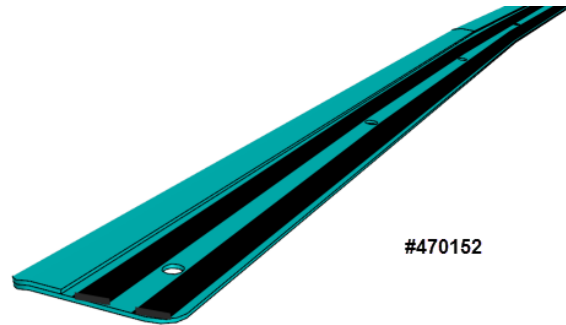

FIGURE 48
7. Apply two strips of double face self-adhesive tape along drip edge #470252 from one end up to the other end. The strips should be placed on each side of the drilled holes (FIGURE 48).